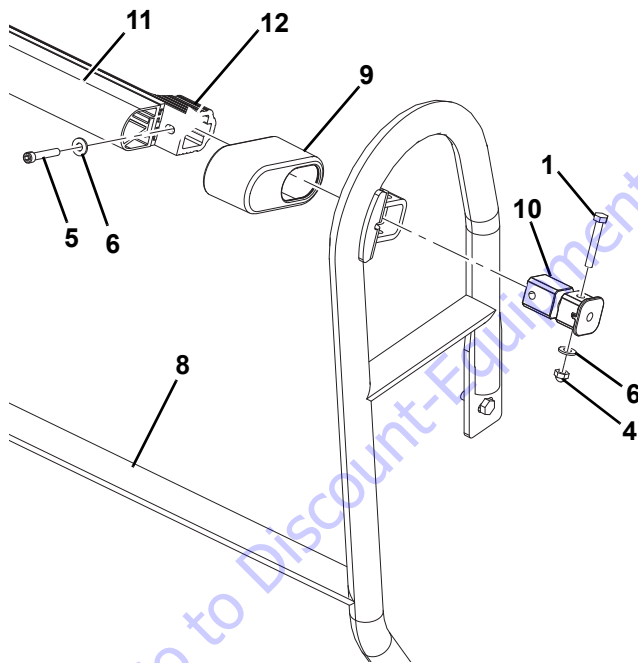

Figure 4-56.
5. Insert a Shear Block Support (10) through shear block housing on the SkyGuard support bracket and into the platform sensor mount. See Figure 4-56.
6. Secure the shear block on welded mount of SkyGuard support bracket using Bolt (1), relevant Washer (6) and Acorn Nut (4) as shown in Figure 4-56.
7. Secure the SkyGuard switch assembly using Bolt (5) and relevant Washer (6) on platform sensor mount. See Figure 4-56.
WHEN THE SKYGUARD IS PUSHED WITH EXCESSIVE FORCE THE SENSOR SUPPORTS (ITEM 10 - FIGURE 4-56.) WILL BREAK. REPLACE WITH NEW SENSOR SUPPORTS BEFORE CONTINUING OPERATION OF THE MACHINE.